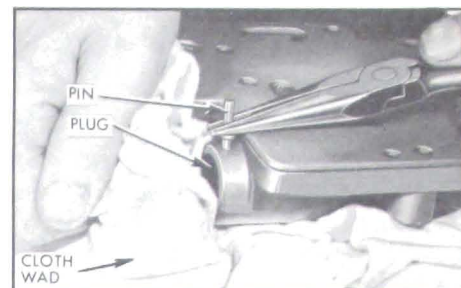

Figure 5-73—Removing Small Pressure Regulator Valve Plug
5. Remove small plug retaining pin. Thread a 1/4"-20 cap screw into plug and remove plug from valve body. Remove pressure regulator valve. See Figure 5-73.